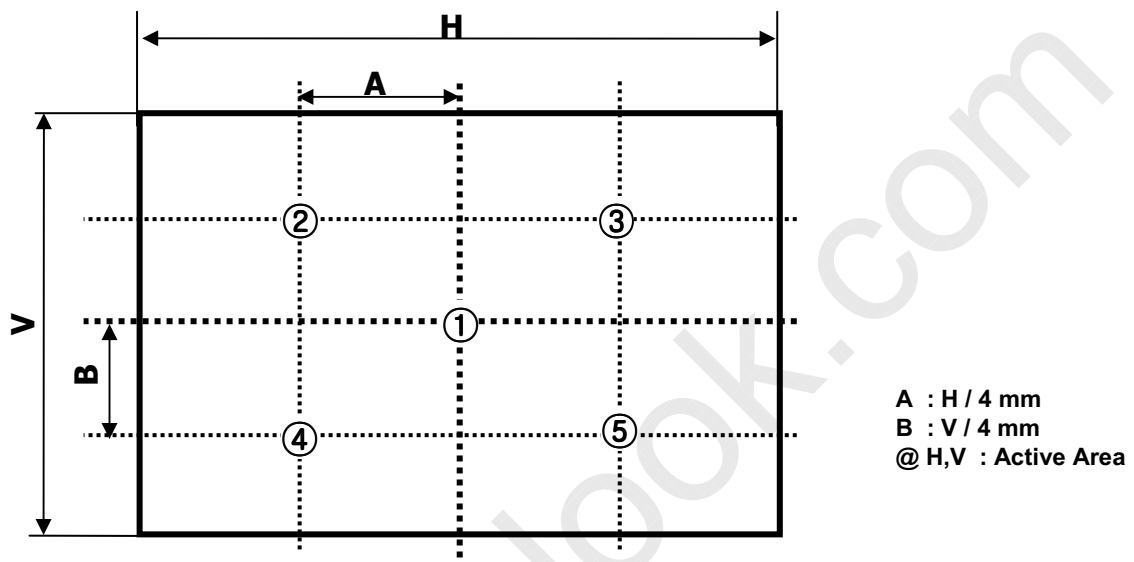

FIG. 2 5 Points for Luminance Measure
n = the Position number(1, 2, 3, 4, 5). For more information, see FIG 2.
2. Surface luminance are determined after the unit has been 'ON' and 1hour after lighting the backlight in a dark environment at $25 \pm 2^\circ\text{C}$. Surface luminance is the luminance value at center 1-point across the LCD surface 50cm from the surface with all pixels displaying white. For more information see the FIG. 2.
For more information, see the FIG. 2.